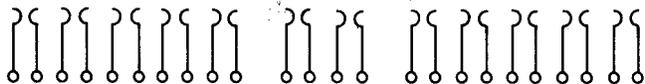

Fig. 16—346 or 346E Jack
**2.16 346 and 346E:** These multicontact jacks (Fig. 16) are used with the 242C plug and have ten pairs of contacts. These jacks consist of a wooden strip on which are mounted a number of pairs of contact springs. These jacks are designed for mounting on the shelf framework used for mounting wired assemblies of Step-by-Step Dial Switching Systems and to engage the plugs mounted on the rear of the mounting plates of these assemblies. These jacks are furnished with the springs adjusted, but can be adjusted when assembled in equipment units so that the two springs in any or all sets of the springs will make contact with each other when the plug is removed.